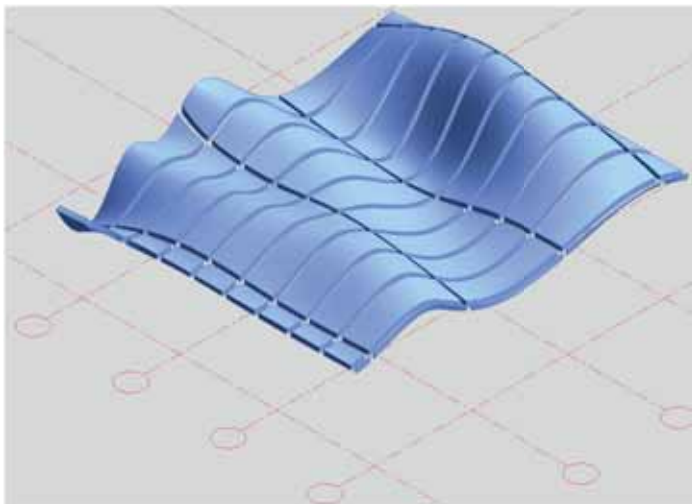

Figure 6 - Roof Solid with All Wall joints Before Beams are Placed
4. Repeat steps 2 and 3 by placing vertical walls at all beam locations and join those walls to the roof solid. The final roof surface should look similar to Figure 6